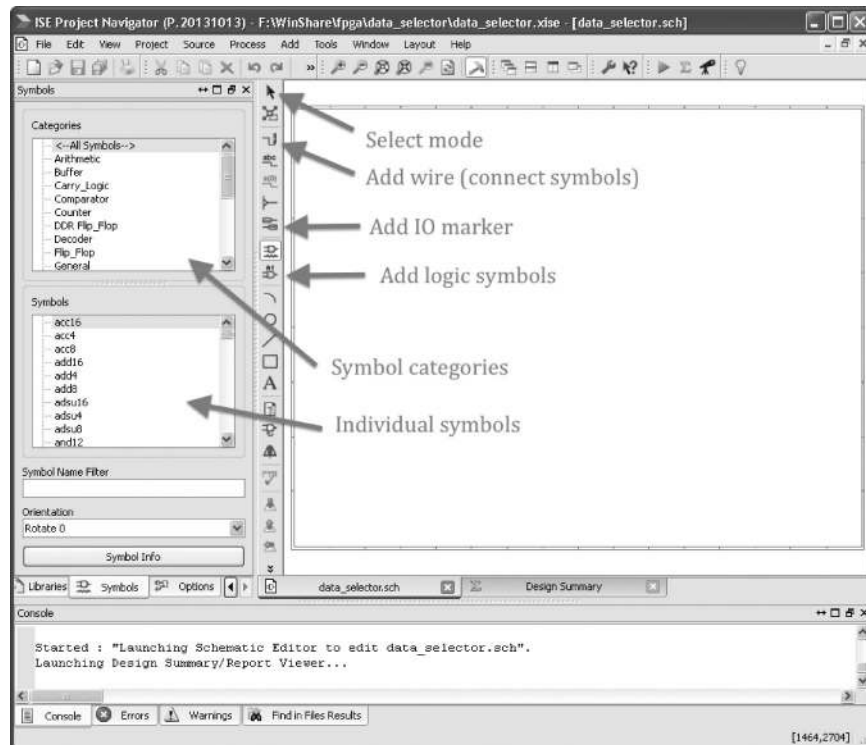

FIGURE 14.11 The schematic editor.
This is shown in Fig. 14.11, labelling the parts that you are going to need.
- Add logic symbols. This is the mode selected in Fig. 14.11. The left hand panel then divides into a top half that shows categories of circuit symbol and a bottom half that has a list of the component symbols in that category.